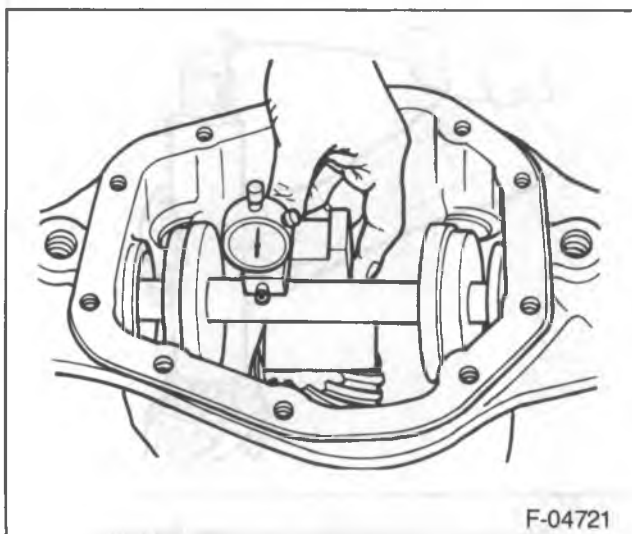

Figure 33—Checking the Pinion Depth Setting
- Set the dial indicator at zero and slide the scooter gage across the arbor (figure 33).